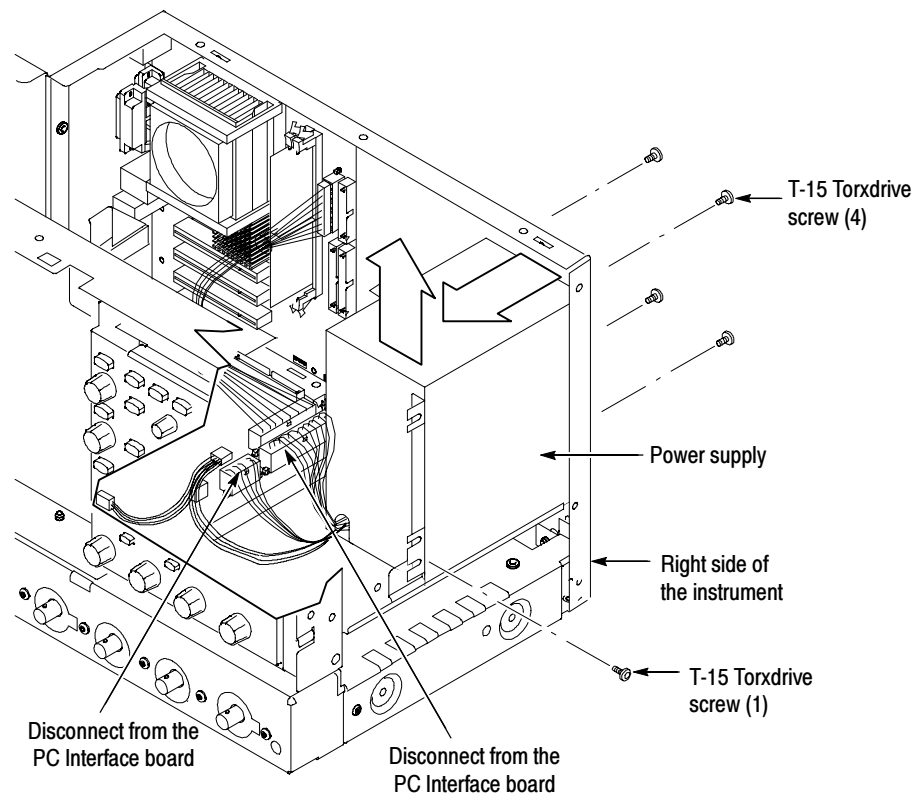

Figure 10: Power supply removal
2. Remove the four T-15 Torxdrive screws that secure the power supply to the back of the chassis. See Figure 10.